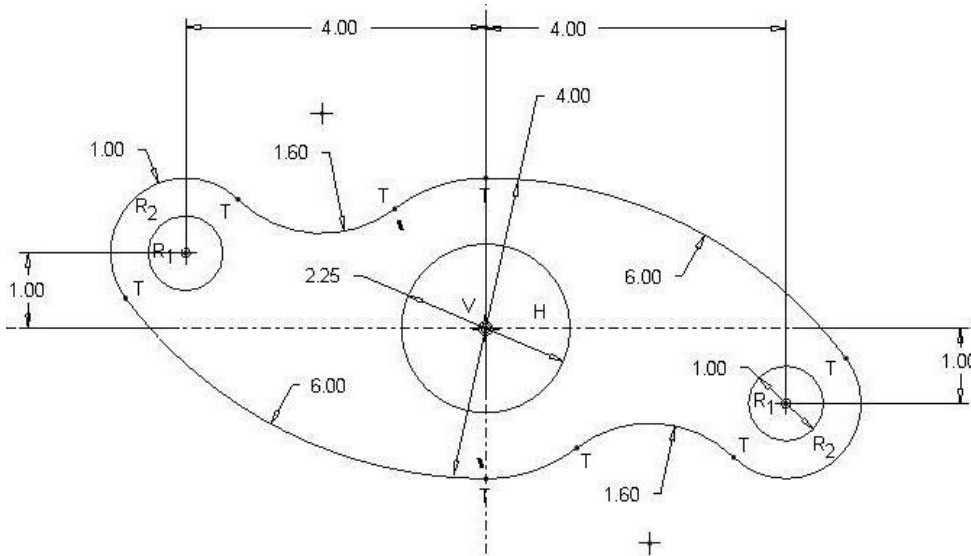

Figure 3-74 Problem 5
- 3.5 Draw the front view of the rocker (Figure 3-74). **Design Intent**—The rocker is symmetric about the center hole. The right 1.00-inch diameter hole must be 4.00 inches right of the center hole and 1.00 inches below it. The left 1.00-inch diameter hole must be 4.00 inches left of the center hole and 1.00 inches above it. The arcs that form the perimeter are tangent to each other.